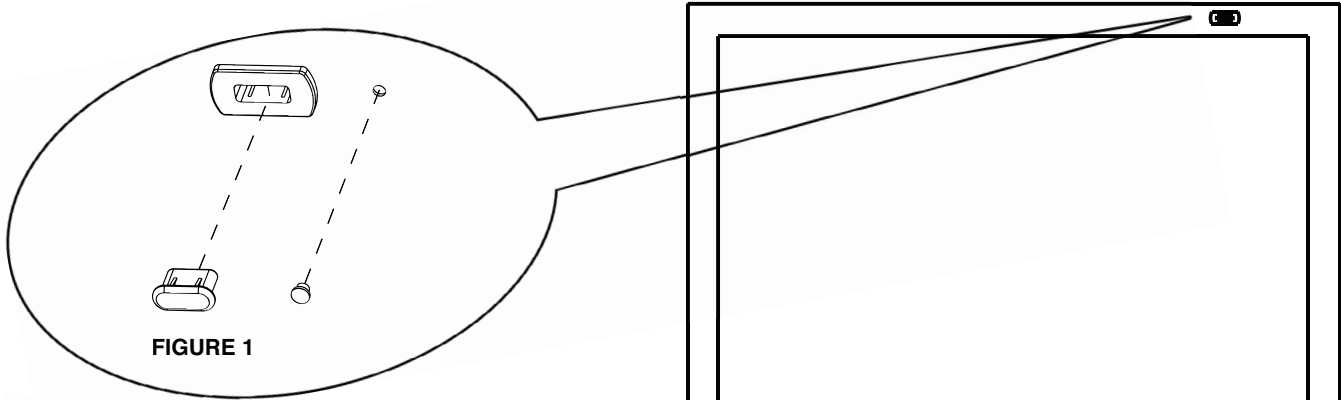

FIGURE 1
1. Remove the silicone plugs from the USB-C receptacle and the screw hole (see **Fig. 1**).